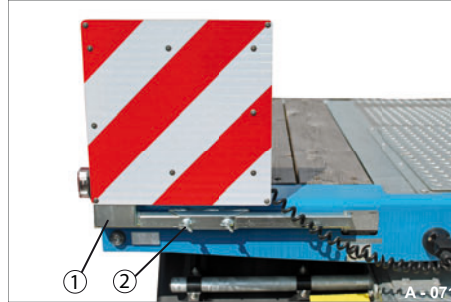
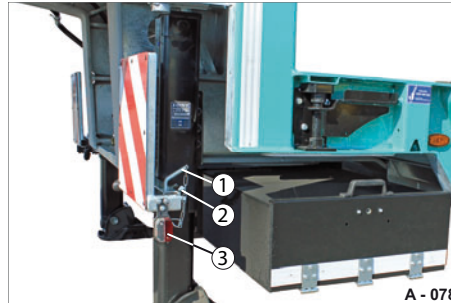

Fig. 89 Warning panel pulled in
Fig. 94 Warning panel pulled in
- Loosen the wing nuts (Fig. 89/2).
- Retract the rod with (Fig. 89/1) the warning panel so that it is flush with the chassis.
- Tighten the wing nuts (Fig. 89/2).
- ▶ Tighten the wing nuts (Fig. 94/2).
- ▶ Loosen the wing nuts (Fig. 94/2).
- ▶ Insert the rod (Fig. 89/1) with warning panel so that the socket pin (Fig. 94/1) fits in the bore hole.